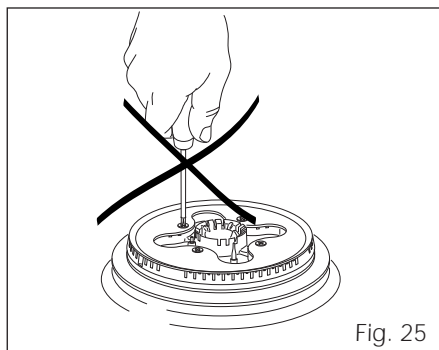

Fig. 25
**IMPORTANT:** NEVER unscrew the burner screws (fig. 25).